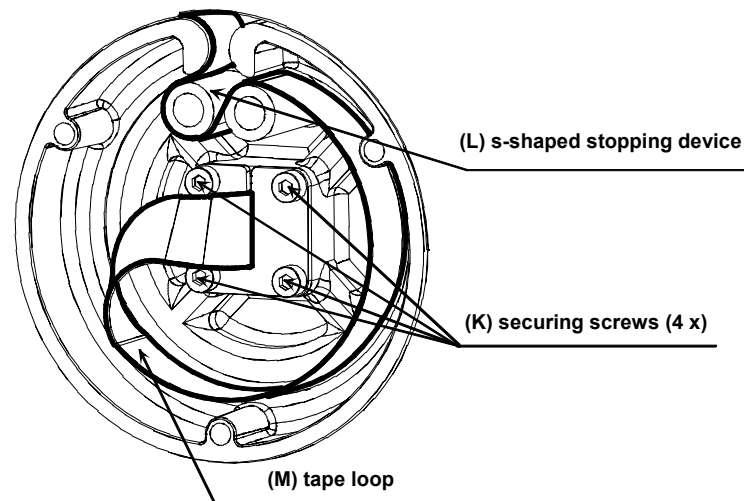

Figure 9-7
- Unscrew with the 2.5 Allen key the 4 screws (K) of the washer holder, as shown on Figure 9-7.
- Make a loop (M) and a S-shape (L) with the tape as shown on Figure 9-7.
- Secure the gaskets and the washers mounted on the tape in the axle core with the washer holder and its 4 screws (K) as shown on Figure 9-7.